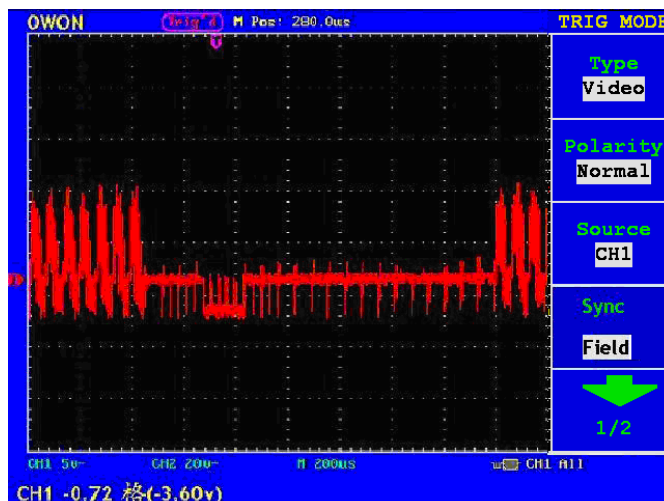

Fig. 41 Video field trigger Oscillogram
- 5、 Press F4 to choose synchronization as "Field" (refer to Fig.41)